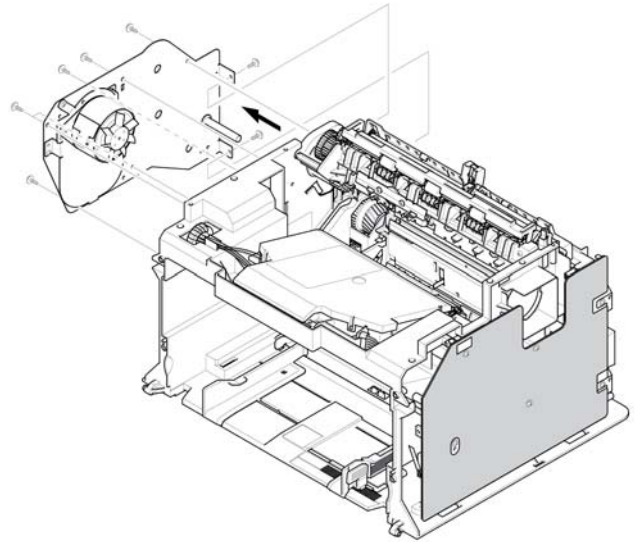

Figure 2
5. Remove 2 screws securing the engine shield and remove six screws securing the frame, then remove the main drive assembly in the direction of the arrow, Figure 2.